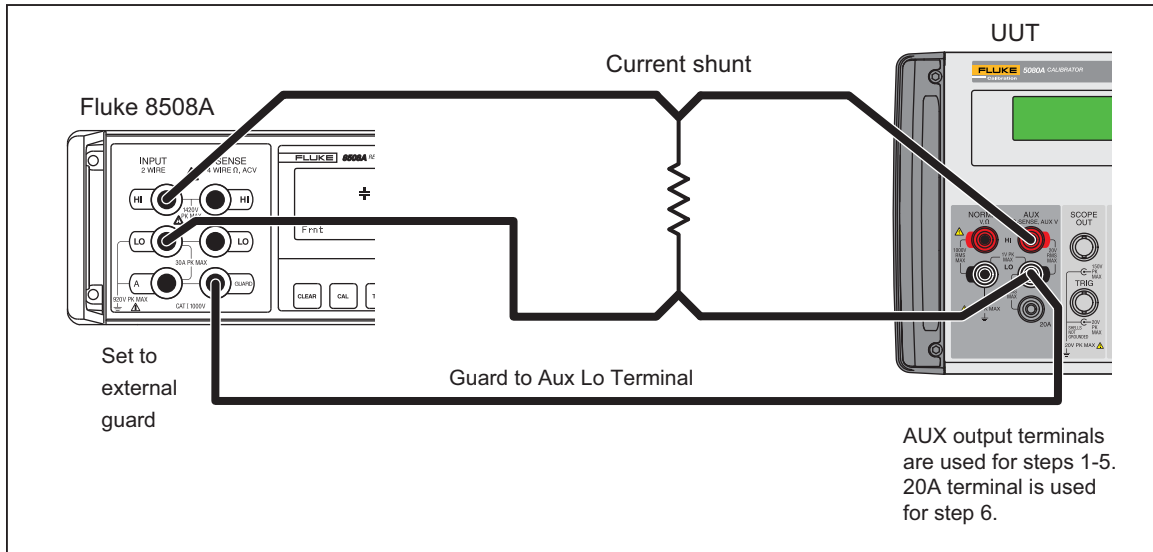

Figure 12. DC Current Adjustment Setup
4. Connect the DMM and 742A-1k Resistance Standard to the UUT as shown in Figure 12.